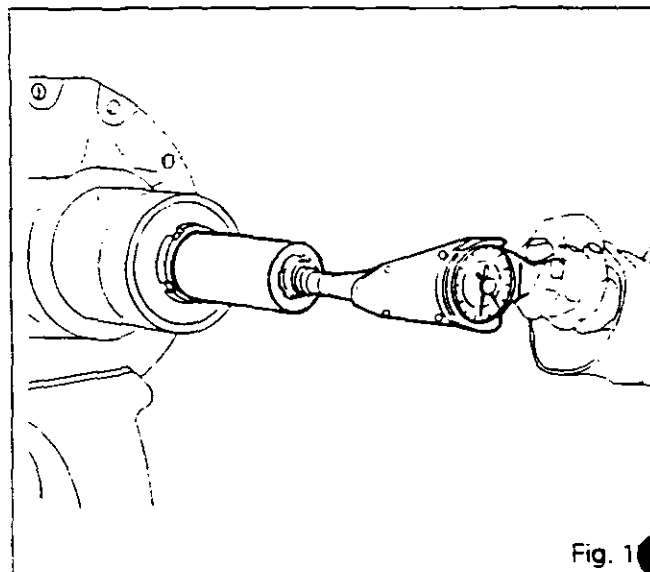

Fig. 18
55. Rotate the bevel drive pinion through a few turns using a torque wrench and the special sleeve (Fig. 18). Check that the above torque is correct.
**Note :** *The torque of 250 - 295 Nm should be applied to every refitting of nut (1).*
56. After setting, maintain nut (1) and untighten the bevel drive pinion.
57. Fit O'ring (40). Apply Loctite 270 on nut (1). Rotate the bevel drive pinion until torque of 250 - 295 Nm is obtained, lock the nut by bending its tab in two opposite slots. Check nut (1) is free of burrs. Oil the seal ring (4) and fit it into the casing using a locally made drift (see section M).